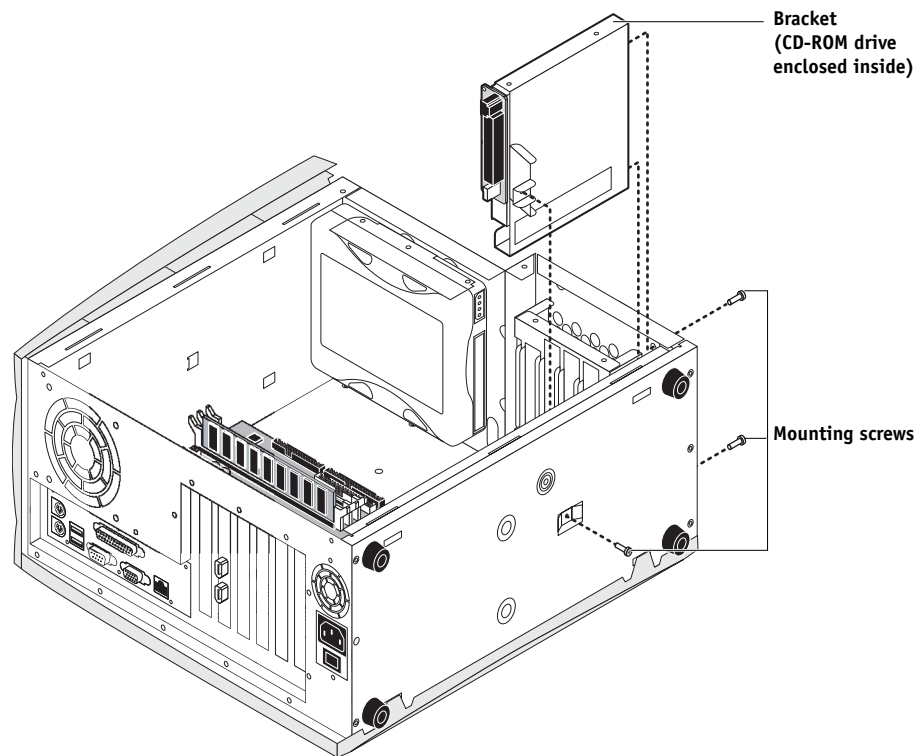

FIGURE 4-30 Removing/replacing the CD-ROM drive and bracket
5. While supporting the CD-ROM drive and bracket assembly, remove the screw on the bottom of the chassis and the two screws on the front of the chassis that attach the bracket to the chassis (see Figure 4-30).
1. Position the bracket inside the chassis and align the mounting holes with the three holes in the chassis (two in front, one on the bottom; see Figure 4-30 on page 4-48).